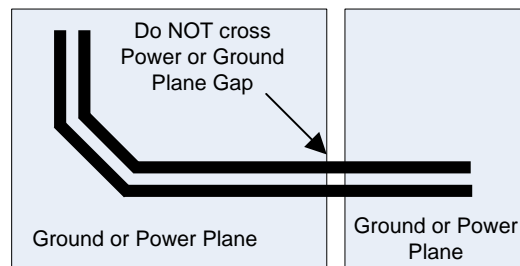

Figure 17. Differential Signal Pair Plane Crossing
- Differential signal traces should not be run such that they cross a plane split (see Figure 17). A signal crossing a plane split may cause unpredictable return current paths and result in an impedance mismatch, which can affect signal quality and potentially create EMI problems.